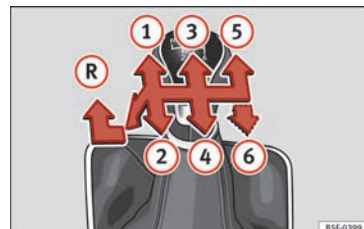

Fig. 52 Gear shift pattern of a 5 or 6-speed manual gearbox
The position of the gears is indicated on the gearbox lever » **Fig. 52**.
- With the gearbox lever in neutral, push it upwards, move it to the left as far as it will go and then forwards to select reverse » **Fig. 52** **R**.